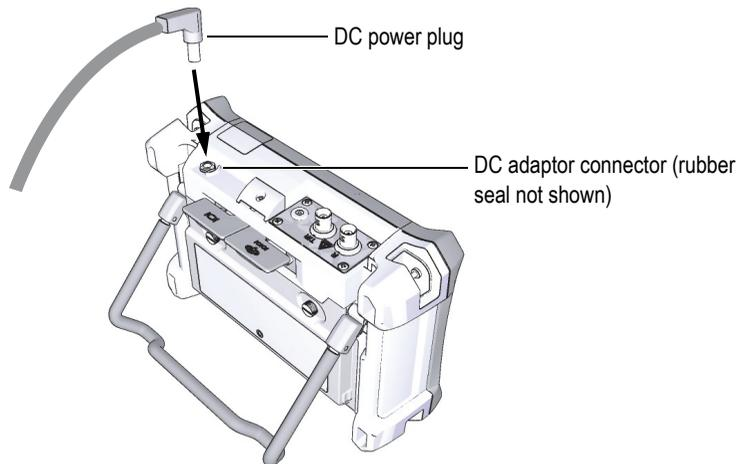

Figure 2-3 Connecting the DC power plug
3. Connect the DC power plug to the DC adaptor connector (see Figure 2-3 on page 46).